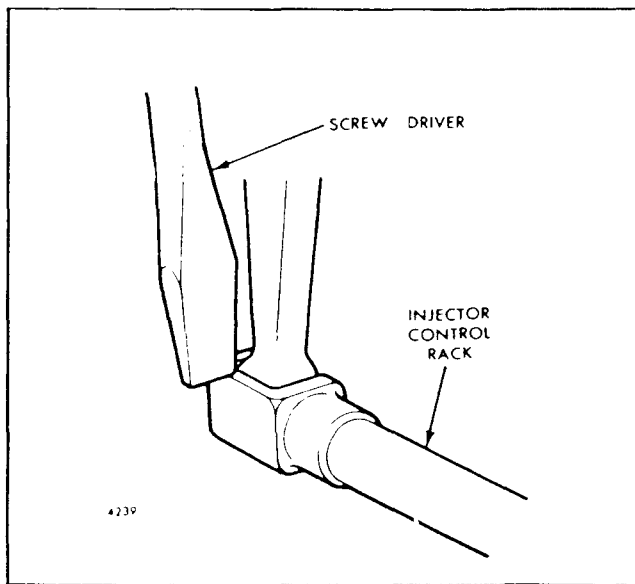

Fig. 3 - Checking Injector Control Rack "Spring"
5. To be sure the control lever is properly adjusted, hold the speed control lever in the maximum speed position and press down on the injector rack with a screw driver or finger tip and note the "rotating" movement of the injector control rack (Fig. 2). Hold the speed control lever in the maximum speed position and, using a screw driver, press downward on the injector control rack. The rack should tilt downward (Fig. 3) and when the pressure of the screw driver is released, the control rack should "spring" back upward.